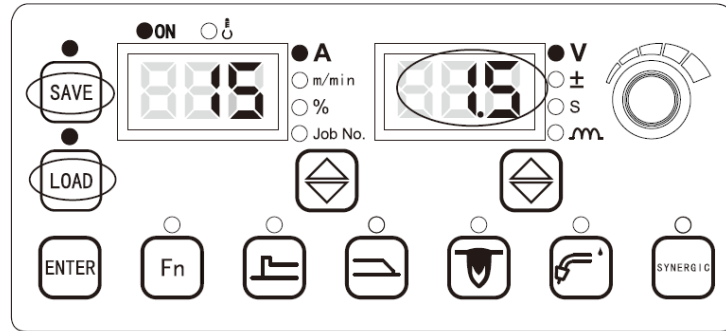

Figure 3-26 Voltage adjustment range locking screen
4. On the voltage adjustment range locking screen, follow the flashing instructions on the screen to use the knob on the control panel of the welder to set the voltage adjustment range. See Figure 3-26. The default adjustment range is $\pm 1.5V$. Then, press the **LOAD**  button to confirm the settings. The parameter range locking screen is displayed.